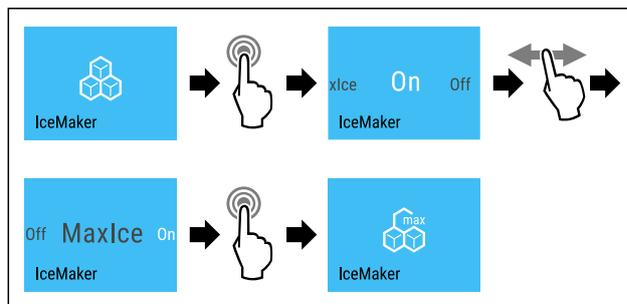

Fig. 21
- ▶ Complete the steps (see Fig. 21).